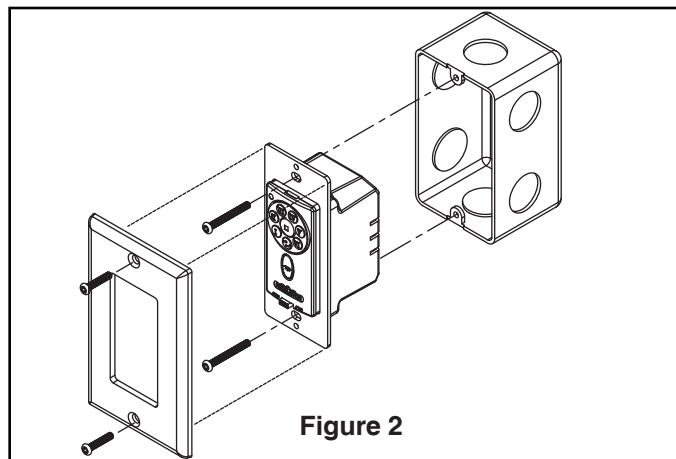

Figure 2
- Attach wall control unit to outlet box using the two #6-32-19mm screws provided. (Figure 2)